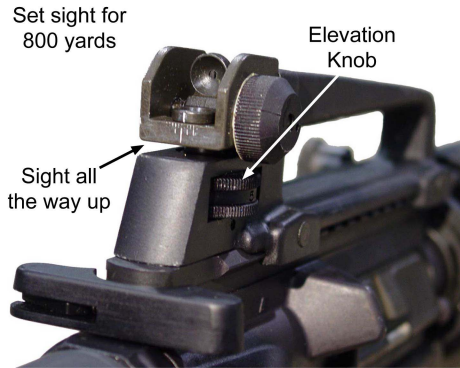

Figure 2-28. Elevation Knob
- b. Rotate the elevation knob until the desired number (4, 5, 6, 7 or 8) is aligned with the mark on the left side of the receiver. Maximum elevation for the M4A1 CQBW and M16A4 is 600 yards. Refer to Figure 2-28.